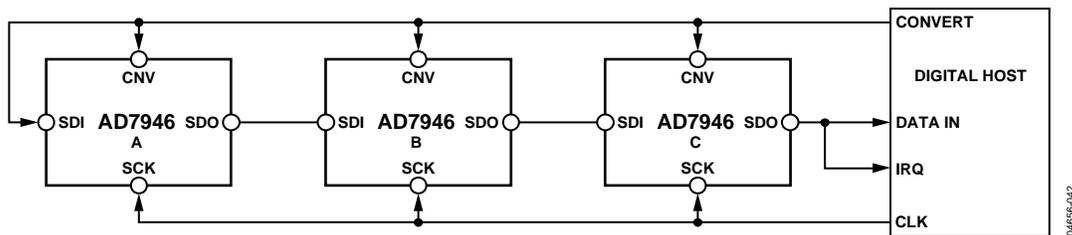
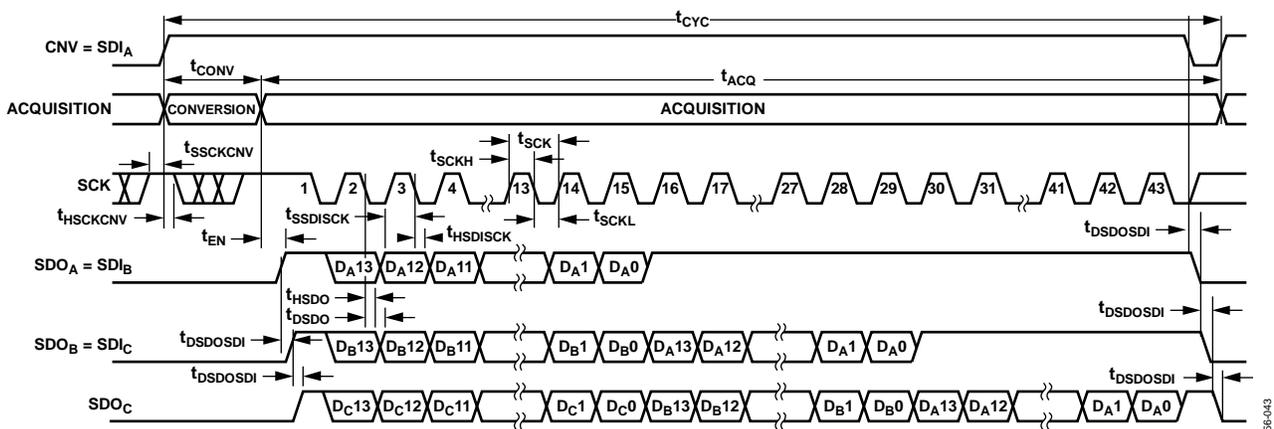

Figure 43. Chain Mode with BUSY Indicator Connection Diagram
Figure 44. Chain Mode with BUSY Indicator Serial Interface Timing
- In chain mode, if SCK is high during the CNV rising edge (see Figure 44).
A connection diagram example using three AD7946s is shown in Figure 43, and the corresponding timing is given in Figure 44.
Figure 43) SDO is driven high. This transition on SDO can be used as a BUSY indicator to trigger the data readback controlled by the digital host. The AD7946 then enters the acquisition phase and powers down. The data bits stored in the internal shift register are then clocked out, MSB first, by subsequent SCK falling edges. For each ADC, SDI feeds the input of the internal shift register and is clocked by the SCK falling edge. Each ADC in the chain outputs its data MSB first, and  $14 \times N + 1$  clocks are required to readback the N ADCs. Although the rising edge can be used to capture the data, a digital host using the SCK falling edge allows a faster reading rate and consequently more AD7946s in the chain, provided the digital host has an acceptable hold time. For instance, with a 3 ns digital host setup time and 3 V interface, up to four AD7946s running at a conversion rate of 360 kSPS can be daisy-chained to a single 3-wire port.